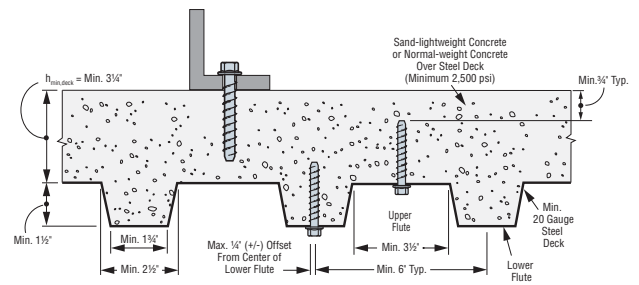

Figure 2. Installation of $\frac{3}{8}$ " Diameter Anchors in the Topside and $\frac{1}{4}$ " Diameter Anchors in the Soffit of Concrete over Metal Deck
- For anchors installed in the topside of concrete-filled deck assemblies, as shown in Figures 2 and 3, the nominal concrete breakout strength of a single anchor or group of anchors in shear, V_{cp} or V_{cbg} , respectively, must be calculated in accordance with ACI 318 D.6.2, using the actual member thickness, $h_{min,deck}$, in the determination of A_{vc} .
- Minimum flute depth (distance from top of flute to bottom of flute) is 1 $\frac{1}{2}$ inch (see Figures 2 and 3).
- Minimum concrete thickness ($h_{min,deck}$) refers to concrete thickness above upper flute (see Figures 2 and 3).